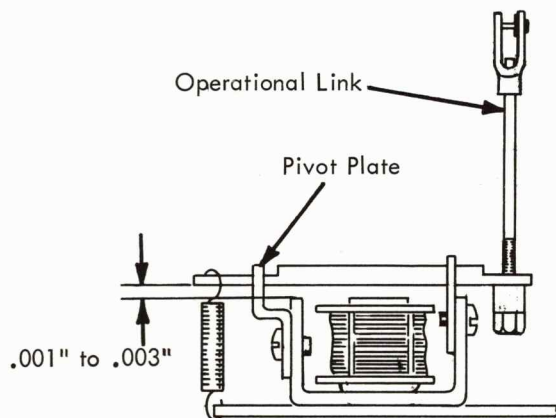

FIGURE 128.1 Pivot Plate
1. Pivot Plate (Late Style) All Magnets - Position so that the armatures (manually attracted) rest on the non-magnetic shim (Fig. 128.1). This will provide .001" to .003" clearance between the armature and the yoke. Early production units not incorporating this shim should be adjusted for .001" to .003" clearance between the armature and the yoke.